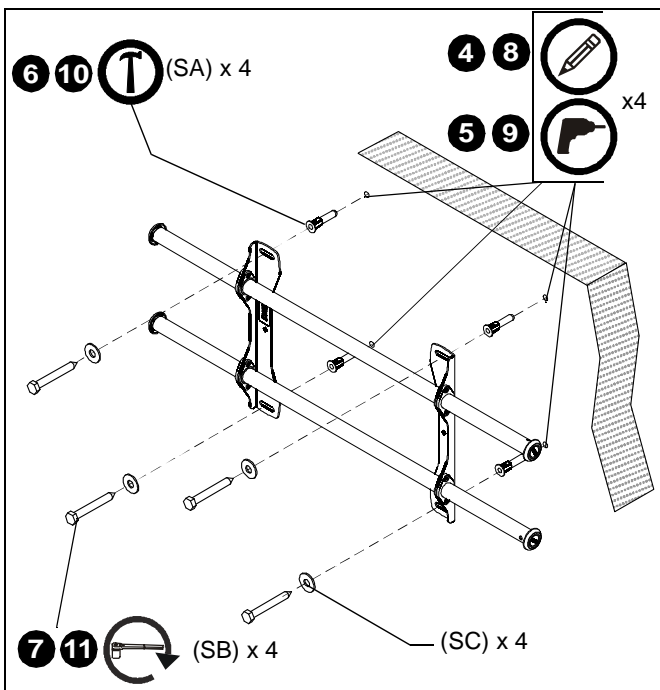

Figure 3
4. Using a level, mark the wall through both upper mounting slots. (See Figure 3)
6. Install an anchor (SA) into each pilot hole using a hammer.
7. Use two 5/16 x 2-1/2" lag bolts (SB) and two 5/16" flat washers (SC) to attach top of mount to anchors in wall.
8. Mark the attachment points for the lower mounting slots. (See Figure 3)
9. Drill one 5/16" (7.9mm) pilot hole at each marking for lower mounting holes. (See Figure 3)
10. Install an anchor (SA) into each pilot hole using a hammer.
11. Use two 5/16 x 2-1/2" lag bolts (SB) and two 5/16" flat washers (SC) to attach the mount to the wall through the lower mounting holes. (See Figure 3)